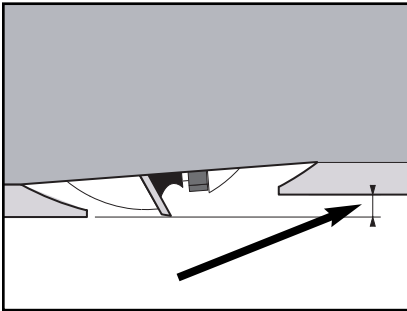

Figure 7. Depth of cut.
4. While keeping the outfeed sole flat against the workbench, turn the depth control knob to raise the infeed sole off of the workbench. *Note—The difference in height between the infeed and outfeed soles will be the depth of cut (See Figure 7).*